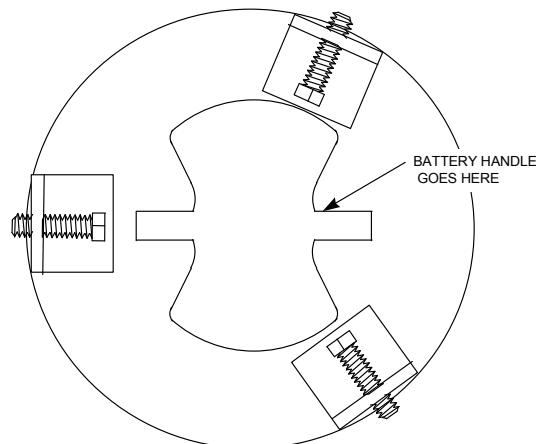

Figure 2-13
- k. Install the battery clamp (Figure 2-13) over the battery and secure to the inside of the pocket. Do not overtighten the bolts or the clamp will bend.